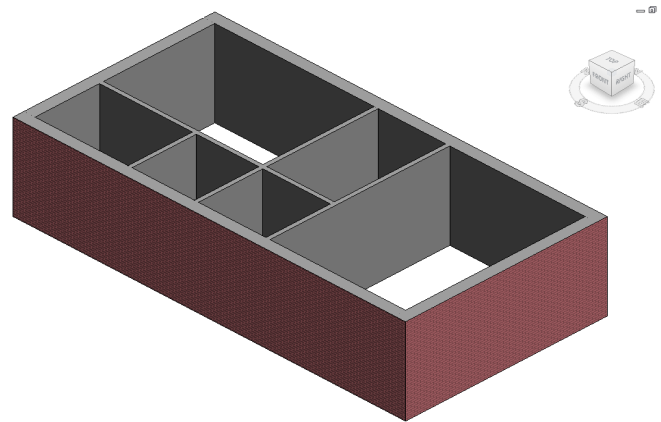

Figure 3-66 3D view of the Apartment 1 building model
8. Now, choose the **Visual Style** button from the **View Control Bar**; a flyout is displayed. Choose the **Shaded** option from this flyout; the 3D view is displayed and with shading with edges visible, as shown in Figure 3-66.